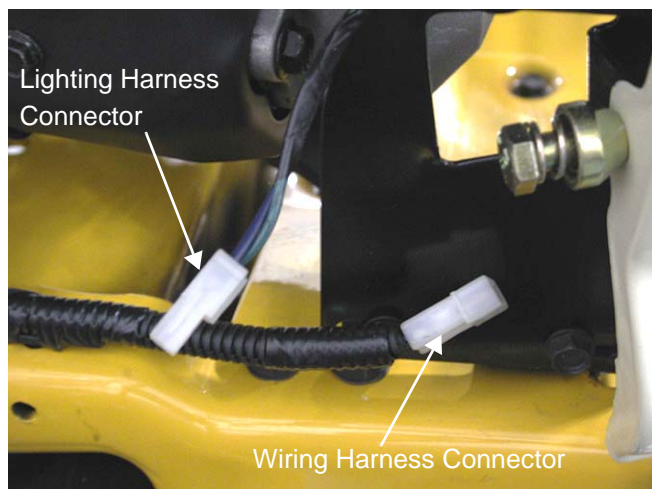

Figure 37.5
- 37.5. Disconnect the wiring harness connector from the lighting harness connector. See Figure 37.5.